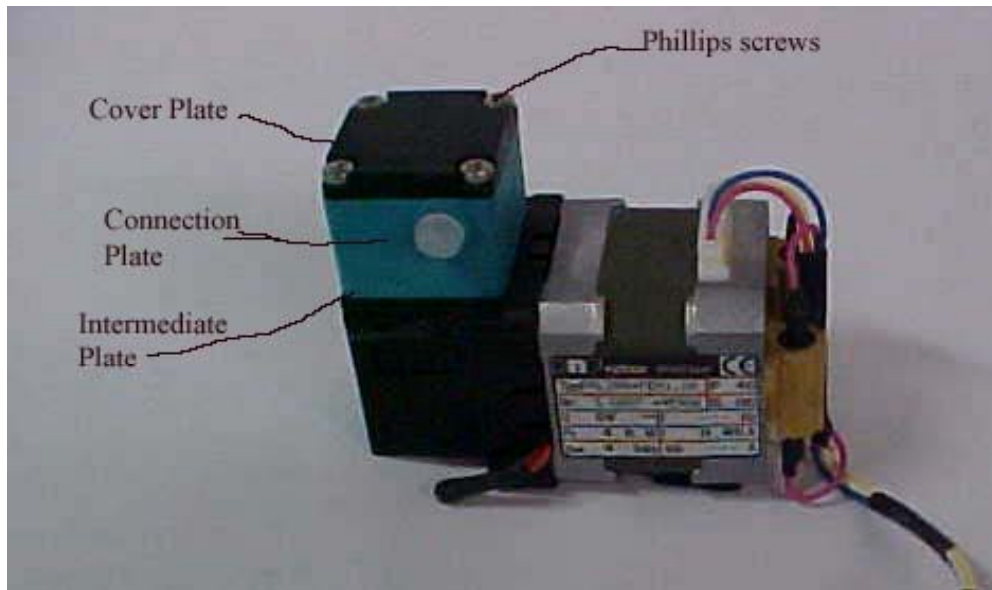

FIGURE 1- PARTS IDENTIFICATION
4. Remove the pump head cover plate by removing the 4 Phillips screws holding the assembly together. See figure 1. Note the orientation of the plate. It must remain the same for reinstallation.